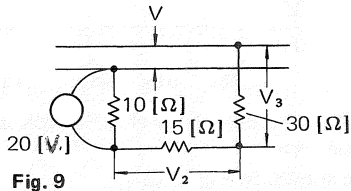

Fig. 9
* **Question 6.** If the voltage across the 10 [Ω] resistor in the circuit shown in Fig. 9 is 20 [V], what is the total voltage?